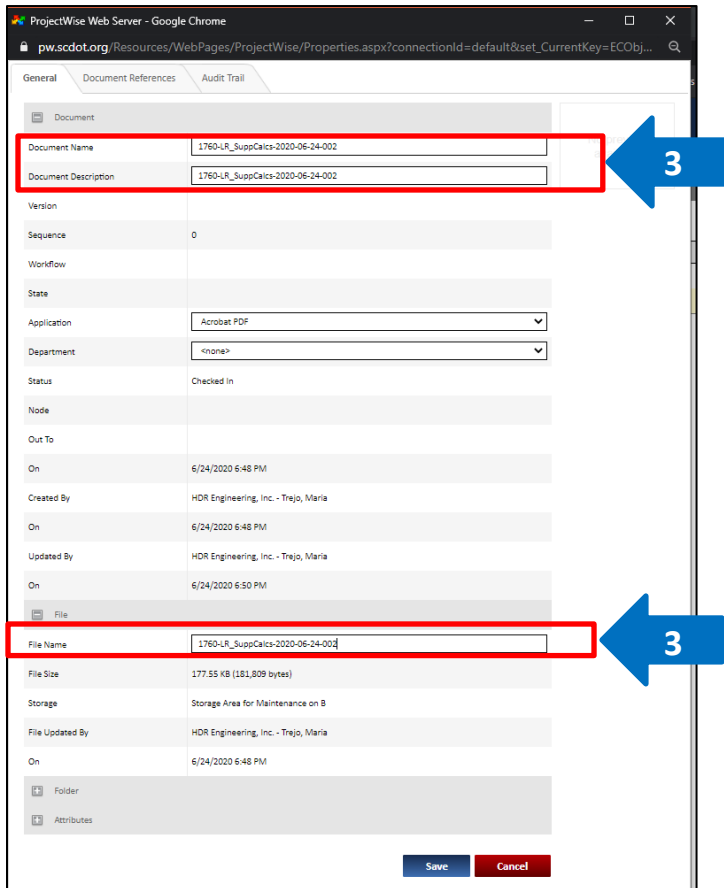

Figure 3.23. The three fields shown (Document Name, Document Description, and File Name) must match, and the file name must follow the File Naming Convention.
3. Verify that the Document Name, Document Description, and File Name fields match for the file and meet the File Naming Convention guidelines (Figure 3.23). If they do not match, copy and paste the correct file name according to the File Naming Convention.